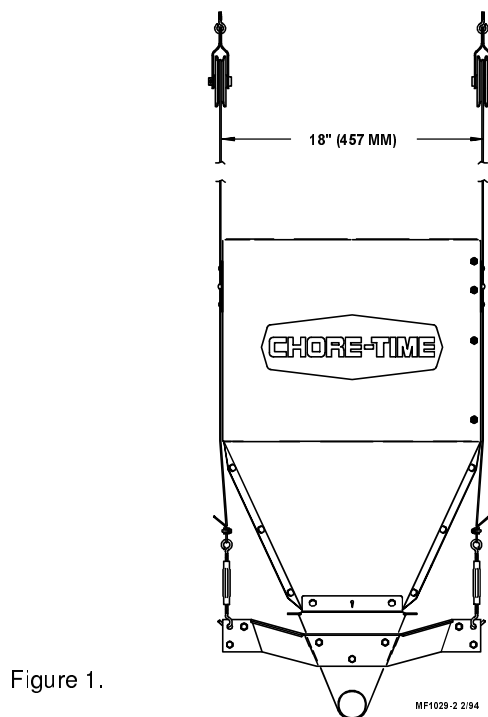

Figure 1.
Figure 1 shows a Feed Hopper suspended using the Hopper Mount Brackets.
2. Install two Full Line Suspension Kits spaced 18" (457 mm) apart at the hopper location. See Figure 1.